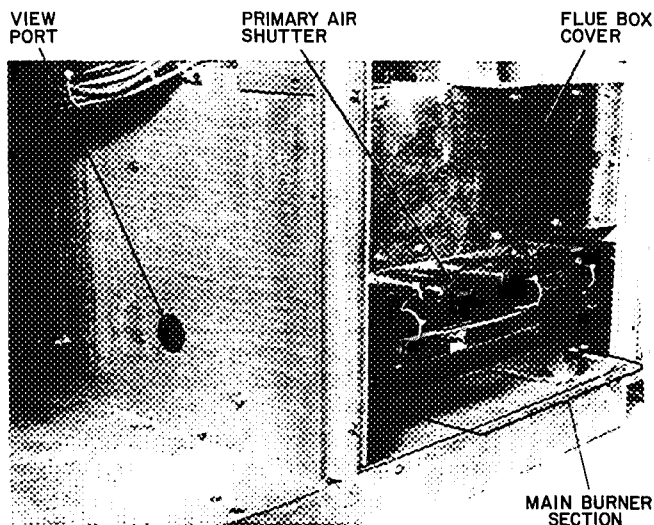

Fig. 28 — Typical Heating Section
4. With a small screwdriver, turn adjustment screw until flame fully engulfs sensor. Flame can be observed through view port (Fig. 28).
4. Loosen primary air shutter (Fig. 28) and adjust to a minimum opening of $\frac{5}{8}$ inch.